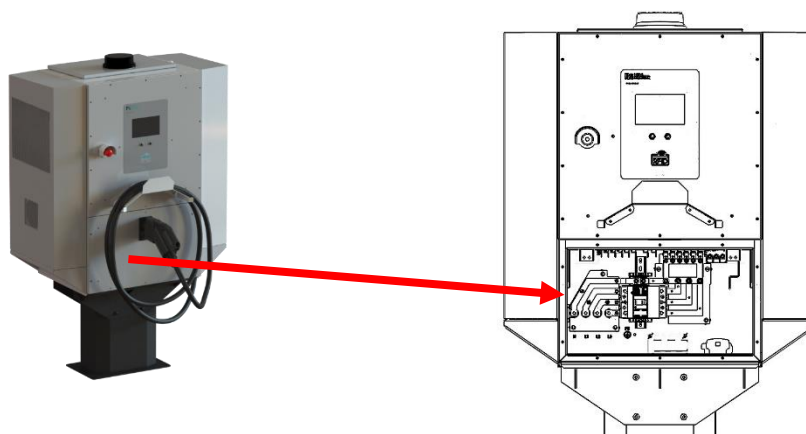

Figure 22 - Opening AC Service Panel by removing screws around panel's perimeter
2. If AC Service Panel is closed, open it using a T25 Torx t-handle screwdriver to remove all screws around the front panel's perimeter (see Figure 22).